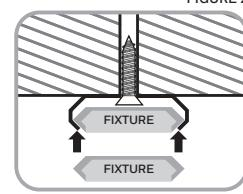

FIGURE 2
- Place the provided 1/2in. wood screws in the metal mounting clips and drive the screws into the pre-drilled holes in the mounting surface. Use only a #1 Philips head screwdriver when screwing in brackets to avoid stripping the mounting holes (do not use power tools). Repeat for all mounting clips (see Figure 2).
- Place the provided 1/2in. wood screws in the metal mounting clips and drive the screws into the pre-drilled holes in the mounting surface. Use only a #1 Philips head screwdriver when screwing in brackets to avoid stripping the mounting holes (do not use power tools)(see Figure 2).
- Snap the Bright Strip into the mounting clips and ensure it is firmly held in place (see Figure 2). Make sure the male connection point is facing the direction of where the LED Driver will be mounted.